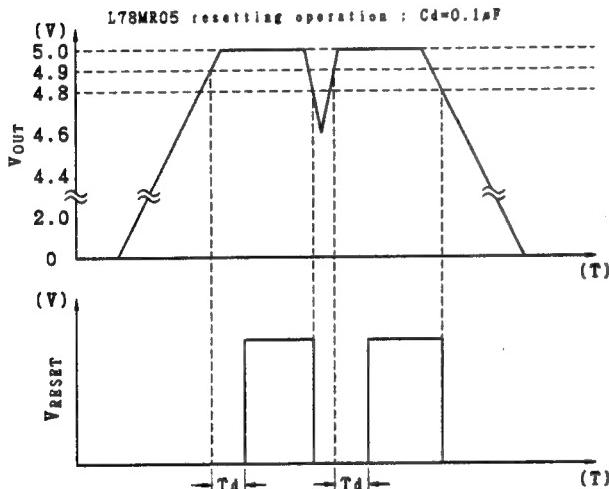

Figure 7
The microprocessor RES input is set so the signal is applied slightly after the rising of VDD (power ON), and slightly before the trailing time (power OFF). This time lag is determined by C809 connected to IC pin②. Figure 7 shows the timing diagram.